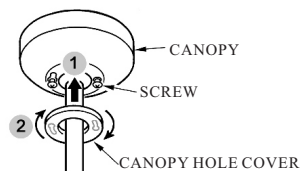

FIG.11
5. Place the canopy hole cover over the screws and twist the cover to tighten. (see Fig.11)